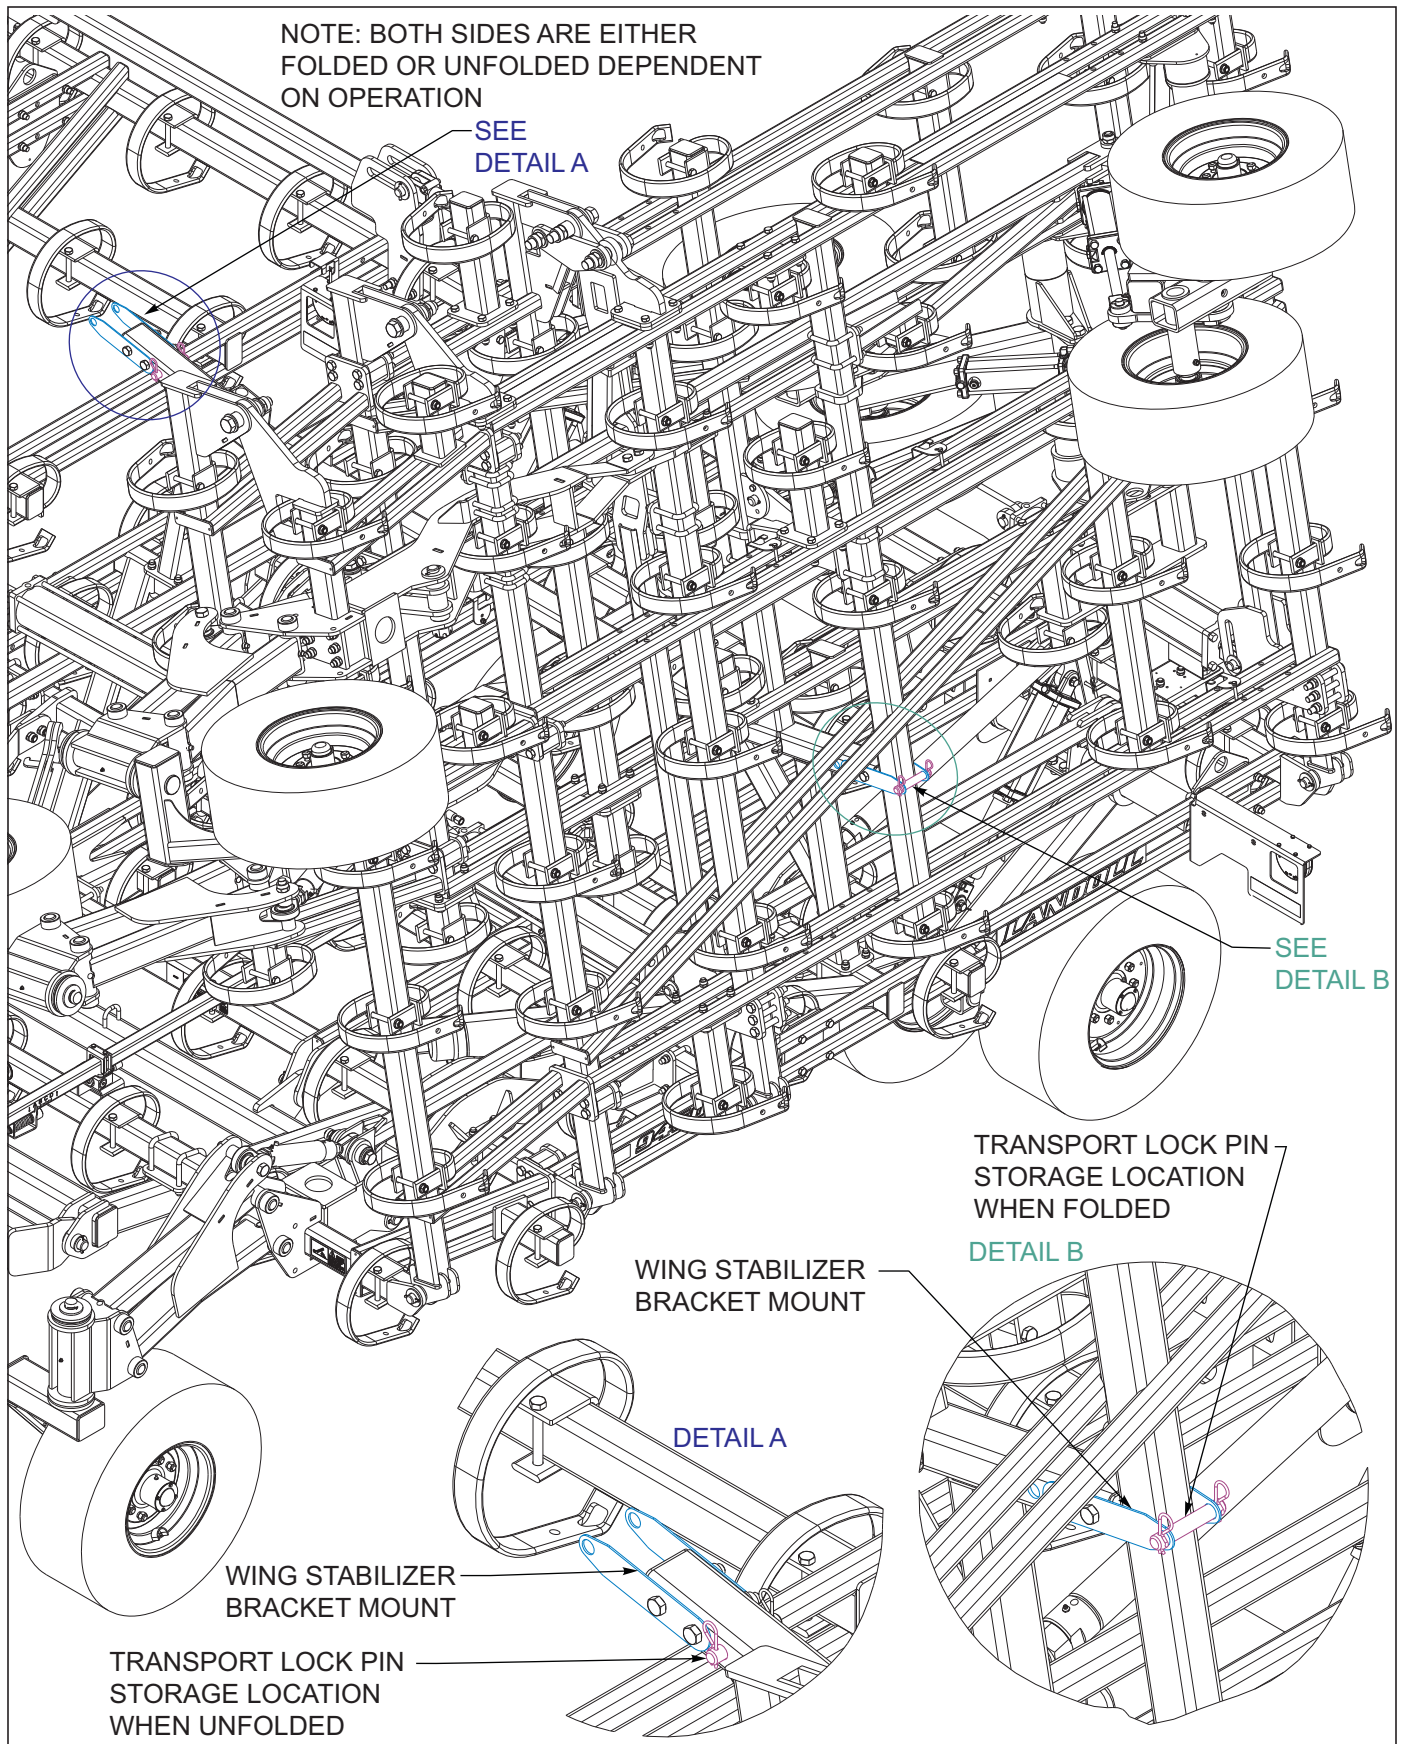

Figure 4-4: Wing Stabilizer Bracket Locks
4. To fold/unfold the Field Cultivator, find a level area large enough to accommodate the machine when it is fully unfolded. ***Stay away from power lines when folding/unfolding implement. Electrocutation can occur without direct contact.*** The tractor should be stopped and not moving with the implement fully raised. Remove the wing transport lock pins from the mounts and install them in the storage locations *See Figure 4-4*.
5. Slowly engage the tractor lever and fold/unfold the wing frames. When the wings are unfolded, continue holding the tractor lever to fully extend all fold cylinders. This will allow the wings to fully flex in the field. When the unit is fully folded, remove the wing transport lock pins from the storage location and install in the mounts provided on each side of the machine *See Figure 4-4*.
9. Storage - For extended periods of non use, it is best to store the Field Cultivator inside if possible. If the unit must be stored outside for extended periods, is best to apply a light coating of oil or grease to exposed cylinder rods to prevent them from rusting. If the unit is stored in the folded position, make sure the wing transport lock pins are installed to prevent wing frames settling *See Figure 4-4*.